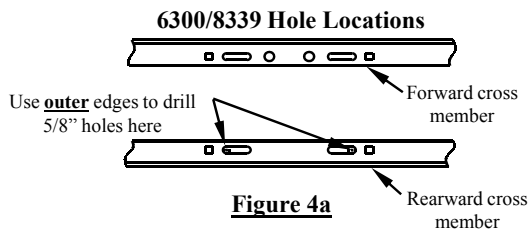

Figure 4a
- 8a. **For 6300 & 8339** use **outer** edges of the long slots in the rearward cross member as a template to drill 5/8" diameter holes through the truck bed as shown in Figure 4a. Not all holes can be drilled from under the vehicle, but will be done later from inside the bed.